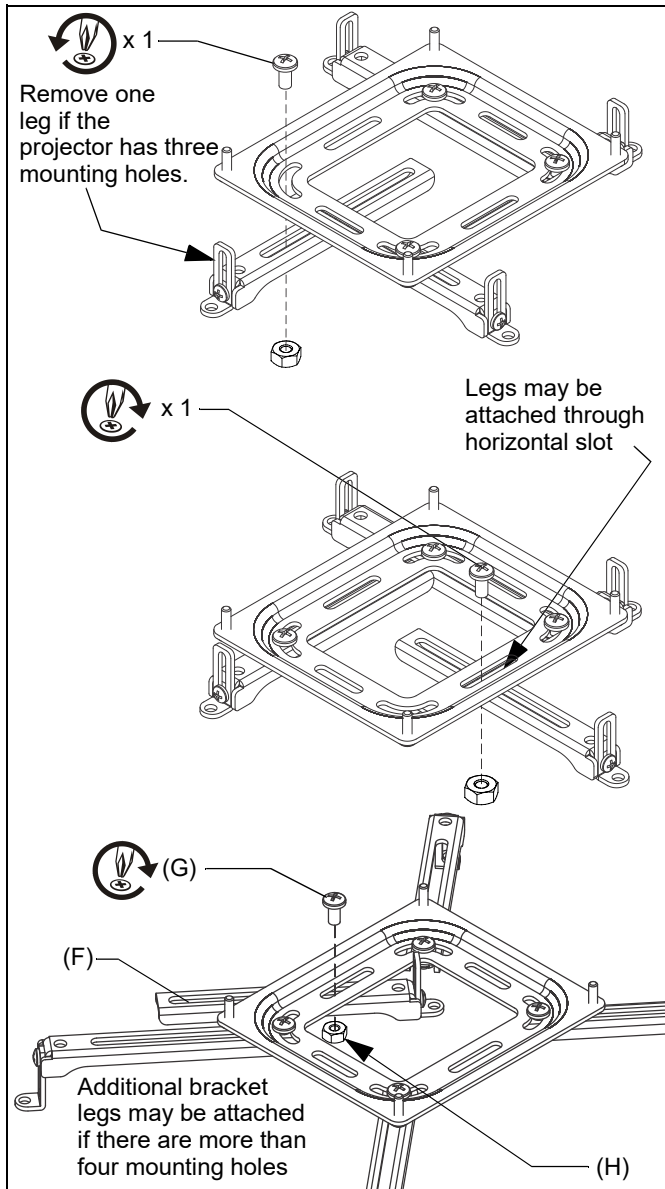

Figure 4
NOTE: Remove one Phillips screw, hex nut and leg if the projector only has three mounting holes. (See Figure 4)
NOTE: Add additional bracket leg(s) (F) (using one 1/4-20 x 1/2" Phillips head cap screw (G) and one hex nut (H) per bracket leg) if projector has more than four mounting holes. (See Figure 4)
NOTE: If it is not possible to align the adjustable legs with the mounting hole pattern on the projector, a leg or legs may be moved and/or removed so that the interface bracket may be aligned using a horizontal slot. (See Figure 4)